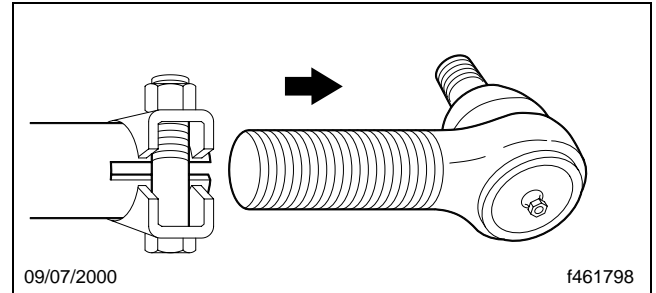

Fig. 4, Remove the Threaded Tie Rod End from the Cross Tube
3. Remove the threaded tie rod ends from the cross tube. See **Fig. 4**.